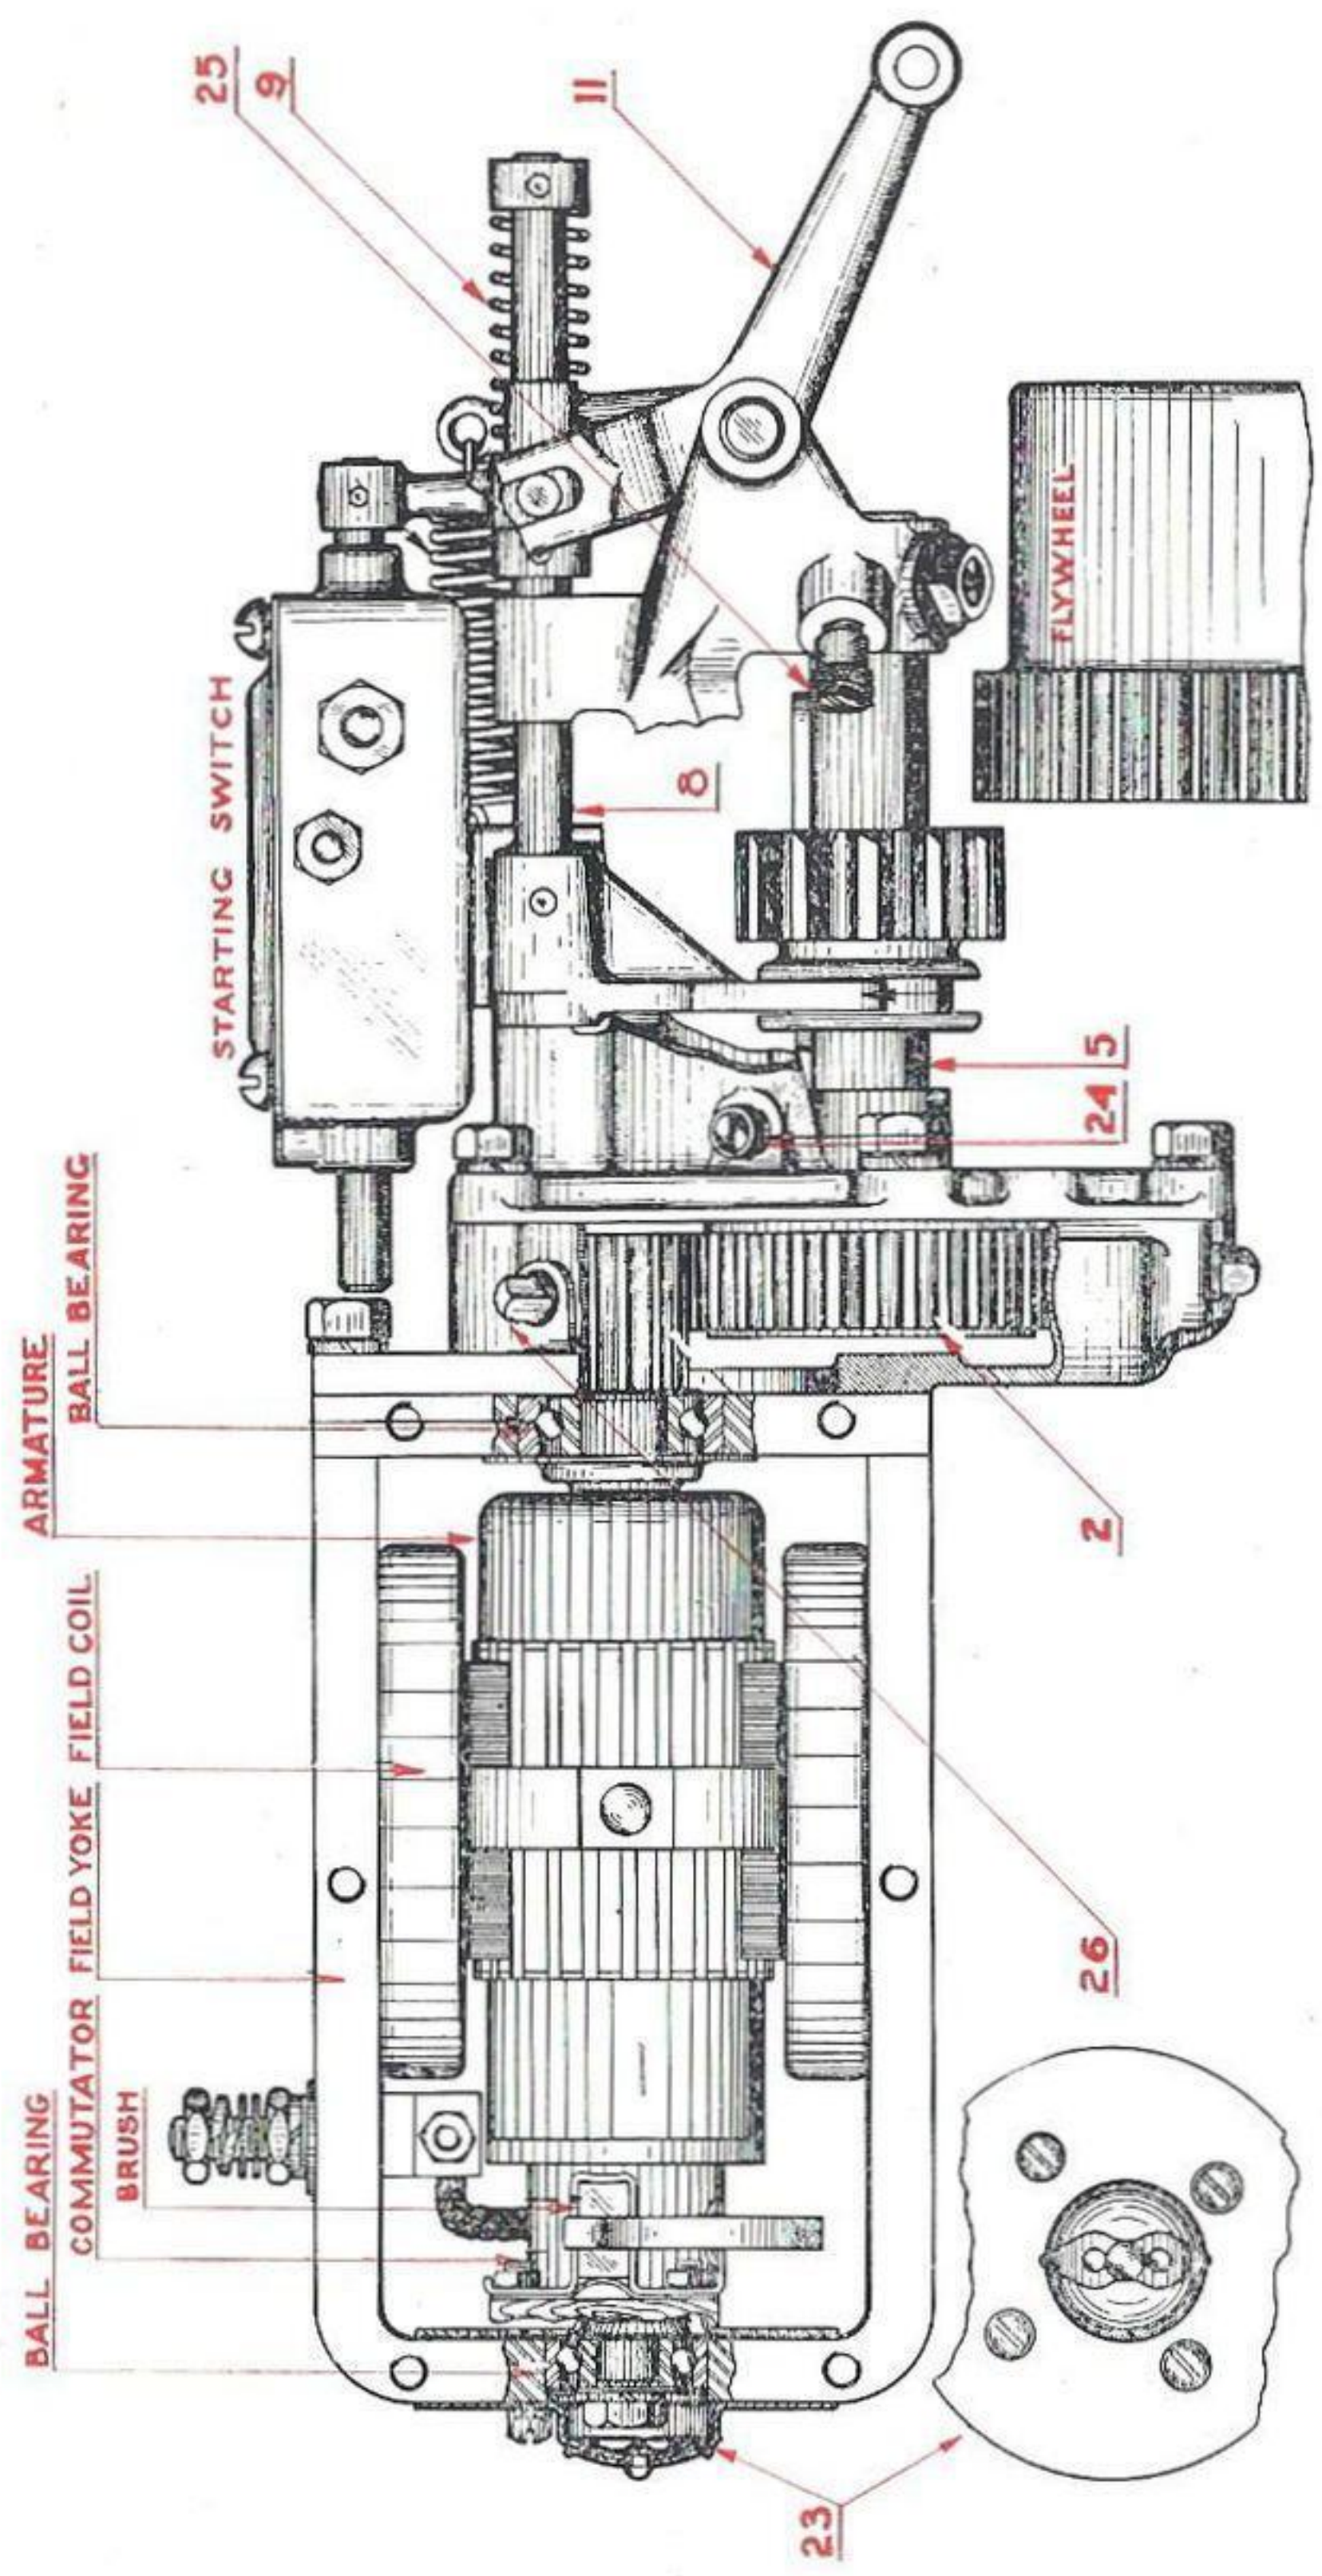

Figure No. 2
- 19 The starting motor (Fig. No. 2) cranks the engine until it runs under its own power.
- 21 It is connected to engine through a gear reduction having a sliding engaging pinion and an over-running clutch. (Fig. No. 2).
- The sliding pinion and starting switch are operated by the same operation of starting pedal, in order that electrical and mechanical connection or disconnection occur at the same time. (Fig. No. 2.)
The oil caps and covers must be turned to closed position after oiling (Fig. No. 2 shows the oiling places). No. 23 is the commutator and oiling device. Oil is admitted through the upper opening; the lower opening acts as an overflow.
- 30 If accompanied by much noise, the trouble is most likely with sliding pinion, which fails to mesh with flywheel. In this case heavier shifter springs (No. 9) should be used, which are obtainable through G. & D. Service Stations or Factory. (See Fig. No. 2.)